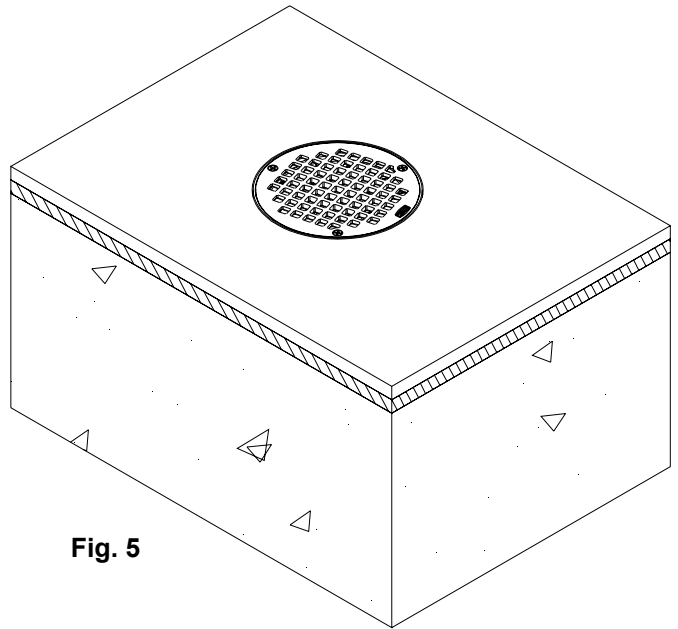

Fig. 5
6. Replace strainer and screws per drain installation instructions. Fig. 5.